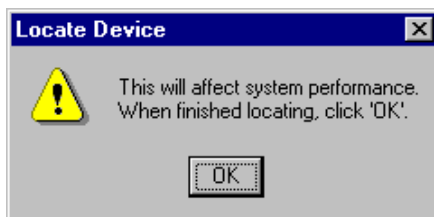

Figure 5-12. Locate Device Message
2. Click OK (see Figure 5-12) to end the locate operation and return to normal status.